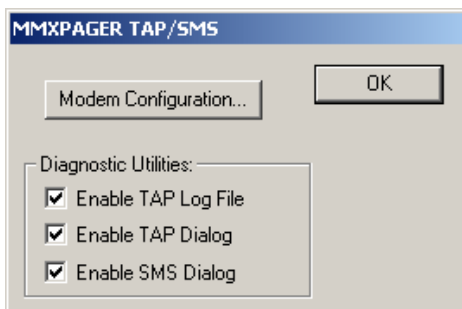

Figure A.3. TAP/SMS Diagnostic Utilities
4. The **TAP/SMS** diagnostics will be displayed, as shown in **Figure A.3**, giving you the option to view and log ISDN/GSM diagnostic messages during pager testing.